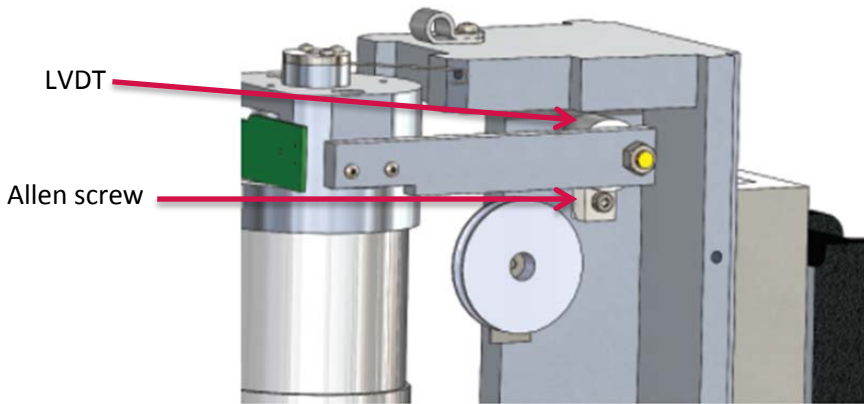

Figure 61: LVDT and Allen Screw
2. Loosen the Allen screw below the torque transducer one or two turns; tap it gently to loosen the wedge clamp attached. Slide the transducer body lengthways until it read a negative value. Note this value, and then slide it back until it reads 2/3 of this negative value. Refer to Figure 61.